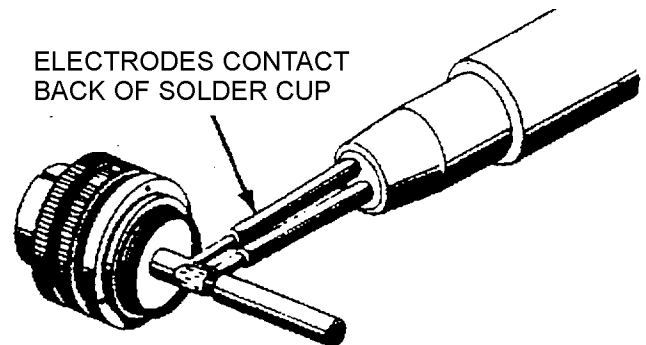

Figure 20. Resistance Soldering to Small Contacts
b. Small contacts are soldered by the use of a pencil type resistance soldering tool (Figure 20). The two electrodes of the tool are placed in contact with the side of the solder cup so that the heating current will pass through the wall of the cup. When the solder flows, insert the tinned wire. Continue to apply heat to the connection until the solder flows to form a smooth fillet, then the current and allow the joint to cool and harden without movement.